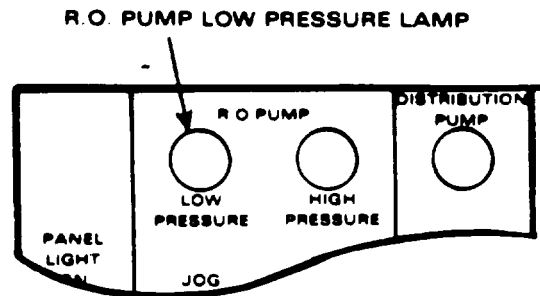

Figure 2-64. R.O. Pump Low Pressure Lamp
- s. Check that the REGULATE PRODUCT flow valve (3, fig. 2-64) is fully open.
w. Set CHLORINE valve to RUN position (fig. 2-64).